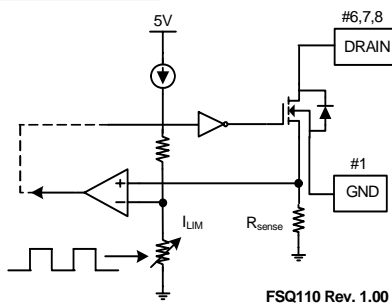

**Figure 15. Overload Protection (OLP)**
**4.1 Overload Protection (OLP):** Overload is defined as the load current exceeding a pre-set level due to an unexpected event. In this situation, the protection circuit should be activated to protect the SMPS. However, even when the SMPS is operating normally, the OLP circuit can be activated during the load transition. To avoid this undesired operation, the OLP circuit is designed to be activated after a specified time to determine whether it is a transient situation or a true overload situation. In conjunction with the IPK current limit pin (if used), the current mode feedback path limits the current in the SenseFET when the maximum PWM duty cycle is attained. If the output consumes more than this maximum power, the output voltage (VO) decreases below nominal voltage. This reduces the current through the opto-coupler LED, which also reduces the opto-coupler transistor current, increasing the feedback voltage (VFB). If VFB exceeds 3V, the feedback input diode is blocked and the 5µA current source (IDELAY) starts to slowly charge CFB up to VCC. In this condition, VFB increases until it reaches 6V, when the switching operation is terminated, as shown in Figure 15. The shutdown delay time is the time required to charge CFB from 3V to 6V with 5µA current source.